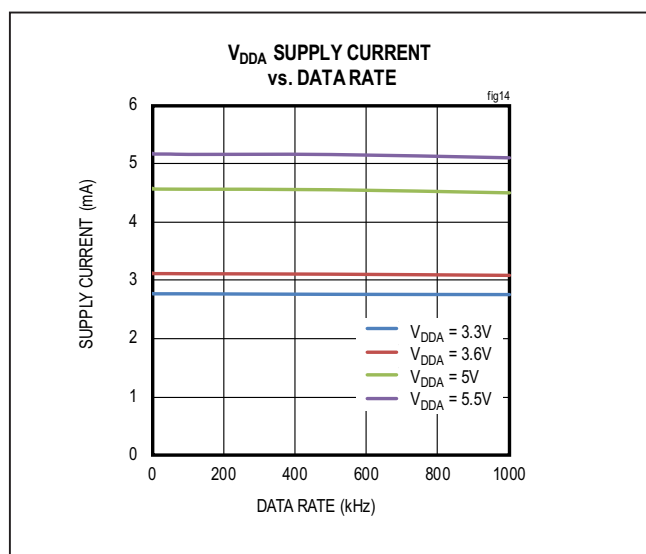
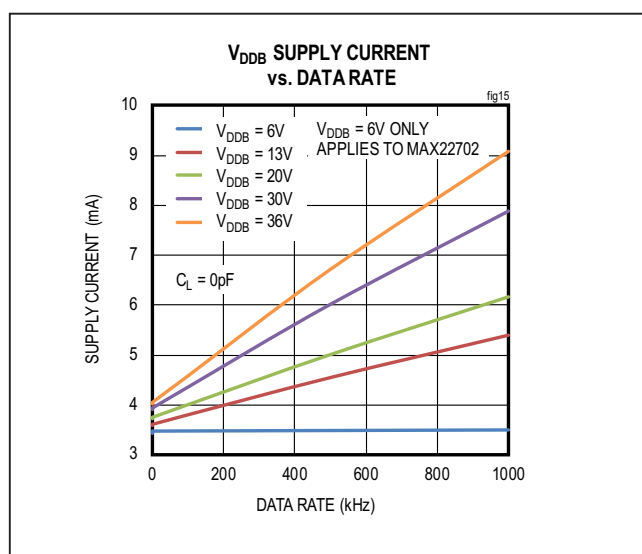

Figure 14.  $V_{DDA}$  Supply Current vs. Data Rate (typ)
Figure 15.  $V_{DDB}$  Supply Current vs. Data Rate (typ)
The required current for the A side of the MAX22700–MAX22702 depends on the  $V_{DDA}$  supply voltage and the data rate. The required current for the B side of the MAX22700–MAX22702 depends on the  $V_{DDB}$  supply voltage, the data rate, and the load condition. The typical current for different  $V_{DDA}$  and  $V_{DDB}$  supply voltages at any data rate without external load can be estimated from the graphs in Figure 14 and Figure 15. Please note that the data in Figure 14 and Figure 15 are extrapolated from supply current measurements in a typical operating condition.
The total current for the B side is the sum of the “no load” current (shown in Figure 15) which is a function of the
**Example:** A MAX22701 is operating with  $V_{DDA} = 5V$ ,  $V_{DDB} = 20V$ . The output is operating at 10kHz with 1nF capacitive load.  $V_{DDA}$  must supply about 4.56mA with a 10kHz data rate and a 5V supply voltage according to Figure 14.  $V_{DDB}$  must supply the sum of the no load current and the load current. The no load current is about 3.77mA with a 10kHz data rate and a 20V supply voltage according to Figure 15. The load current is equal to  $1nF \times 10kHz \times 20V = 0.2mA$ .  $V_{DDB}$  must therefore supply about 3.97mA. The total power dissipation is  $5V \times 4.56mA + 20V \times 3.97mA = 102.2mW$ .